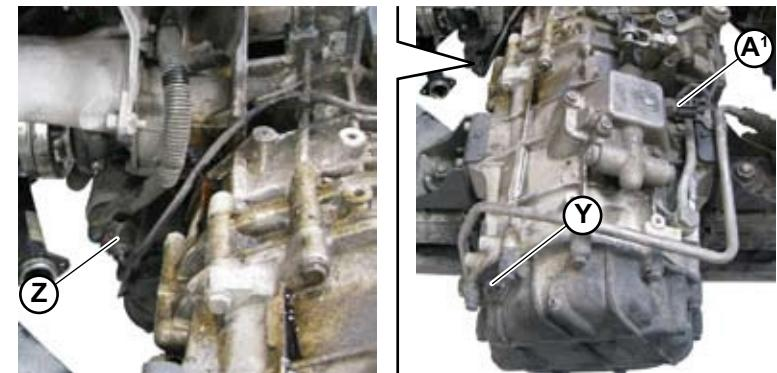

Fig.12
21. Connect the speed sensor connector (Y-Fig.12).
22. Connect the cable connector (Z-Fig.12) originating from the starter.
23. Connect the cable connector (A¹-Fig.12) originating from the gear selector (reverse gear).